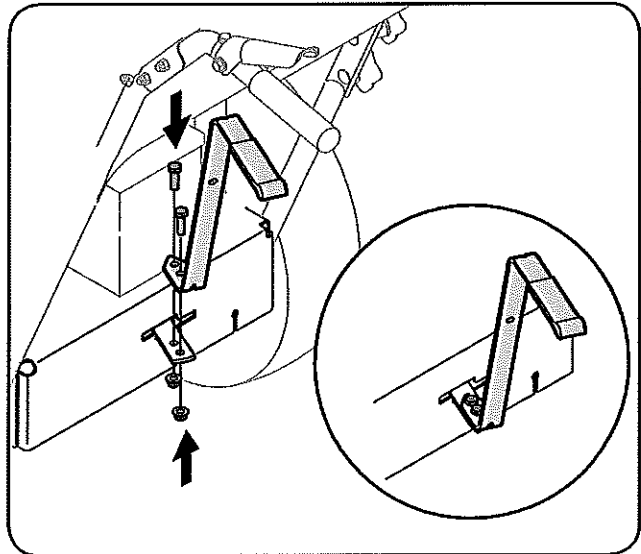

Figure 3-6
3. Position the upper shift lever into a vertical position aligning the holes in the lever with the holes in the shift plate. See Figure 3-6.
4. Secure the lever to the plate using the two screws and two nuts removed earlier. See Figure 3-6 Inset.